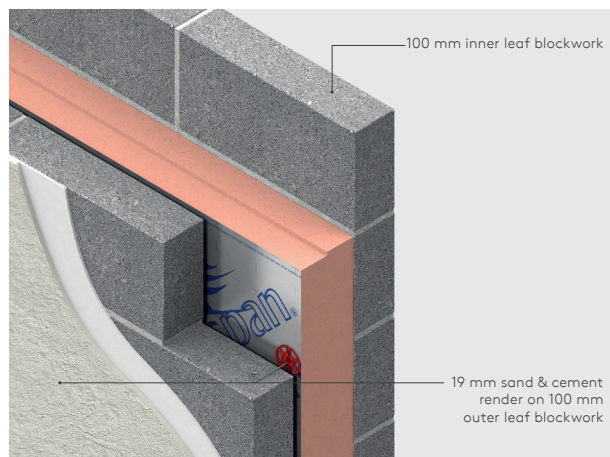

Figure 5 - Kingspan Kooltherm® K8 Plus installed against the inner leaf
- Kingspan Kooltherm® K8 Plus should be fitted with the high shoulder of the ship-lapped joint installed against the inner leaf to help prevent moisture from tracking across the cavity (see Figure 5 below).